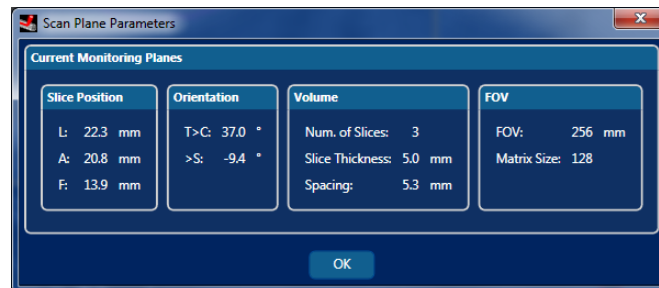

Figure 8.8.2: Scan Plane Parameters for Siemens or IMRIS MRI
- Enter the displayed scan plane parameters from Fusion-S (see Fig 8.8.2.2) into the NeuroBlate Thermal Monitoring Sequences protocol's geometry parameters in the MRI. This will be in the Offc/Ang tab of the sequence exam card as shown below. The Base plane or slice orientation is modified in the geometry tab as noted.